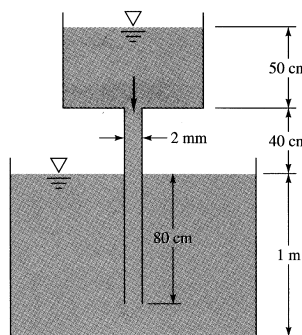

Fig. P6.25
6.25 For the configuration shown in Fig. P6.25, the fluid is ethyl alcohol at 20°C , and the tanks are very wide. Find the flow rate which occurs in m^3/h . Is the flow laminar?
6.26 For the system in Fig. P6.25, if the fluid has density of 920 kg/m^3 and the flow rate is unknown, for what value of viscosity will the capillary Reynolds number exactly equal the critical value of 2300?